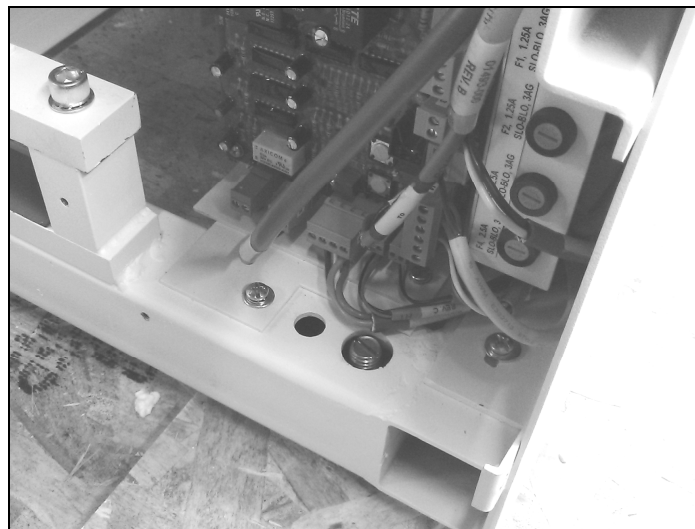

Figure 12: Power Supply Servicing
3. Remove (1) #10-32 screw and spacer from the base of the power supply. (Refer to Figure 12).